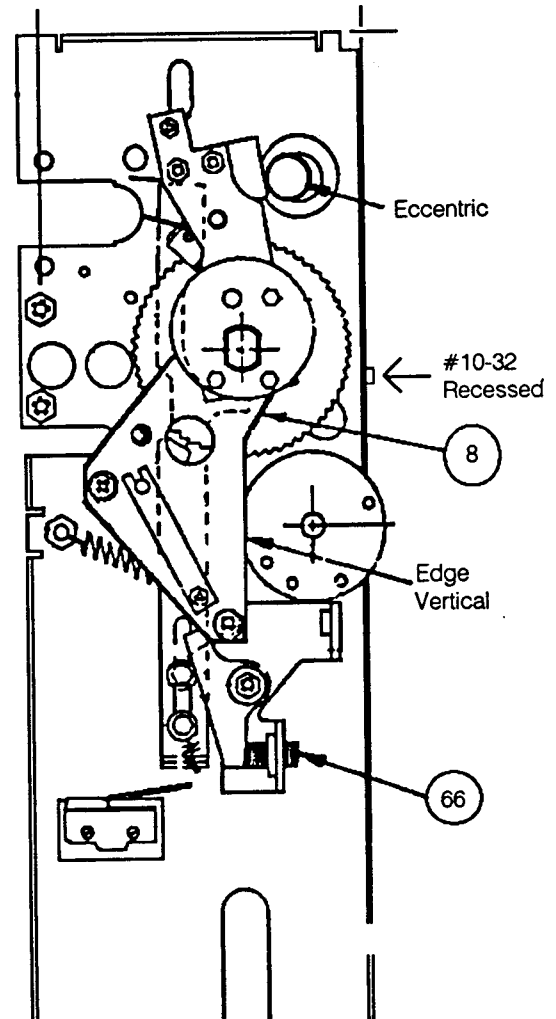

Figure 24. Charging Adjustment
Spring Charging Adjustment (Figure 24)
2. Find spring release latch adjusting screw located in the vertical flange of the operator (10-32 recessed, see Figure 24).